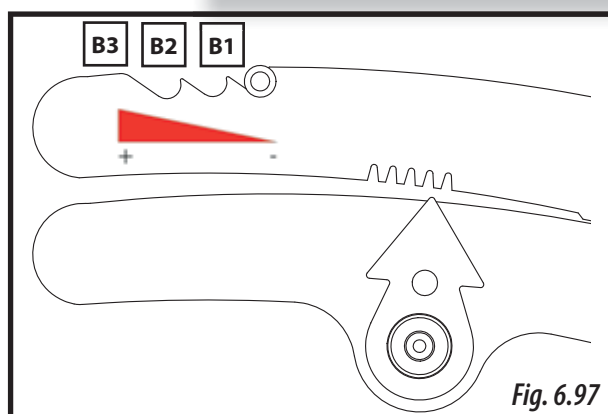
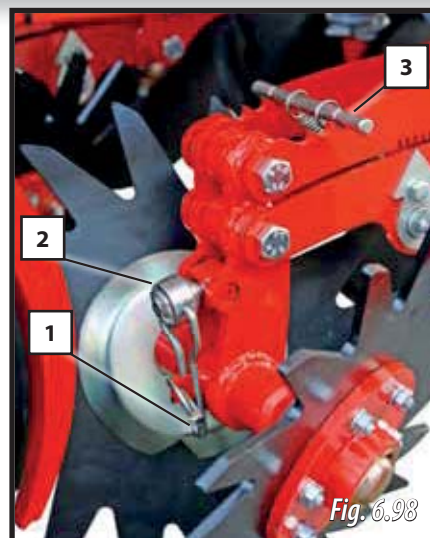

Fig. 6.97
Fig. 6.98
To adjust the pressure of the furrow's residue rotary cleaner, pull the handle (3, Fig. 6.98) and place it at one of the 3 working positions (B1, B2 or B3, Fig. 6.97).
- 1- Remove the pin (1, Fig. 6.98) to free the crank (2, Fig. 6.98).
- 2- Raise the furrow's residue rotary cleaner using one hand and use the other hand to turn the crank until the working depth stop is set at the desired position. For this purpose, use the depth indicator (3, Fig. 6.98).
- 3- Once the working depth stop has been set, lower the crank (2, Fig. 6.98) and place the pin back (1, Fig. 6.98) to lock the stop.